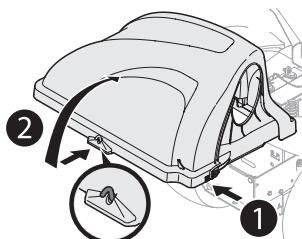

Figure 15
7. Open bagger cover by pushing in on the rear, right-side tab with your right hand (1), and lifting the cover with your left hand in the center rear of the bagger cover (2) as shown in Figure 15.